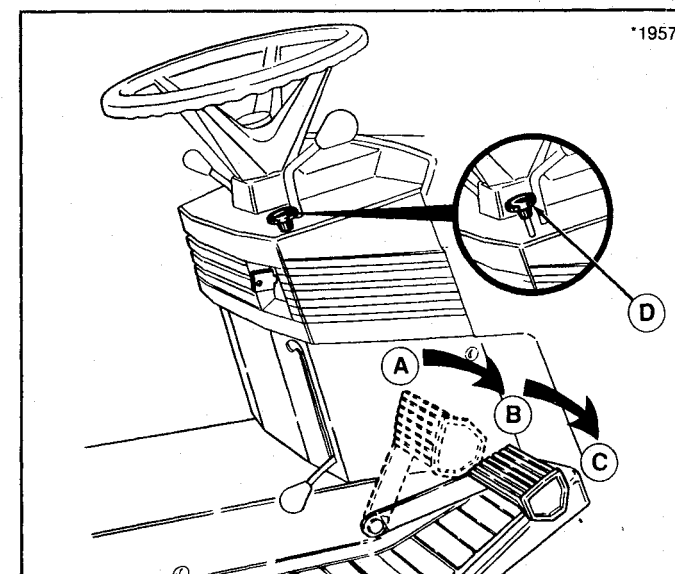

Figure 6. Clutch/Brake/Parking Brake Pedal
12. **Before leaving operator's position**, set the parking brake and disengage the mower PTO. (The parking brake is shown set in figure 6.) Set the engine speed control to SLOW and allow the engine to idle for 20 seconds. Turn the key to OFF and remove it. Wait for moving parts to stop.
Refer to figure 6. Depressing pedal from position A to B disengages transmission drive, tractor brake applies and returns the transmission control lever to neutral. Parking brake is applied at position C when parking brake control knob (D, figure 6) is pulled up with pedal fully depressed.